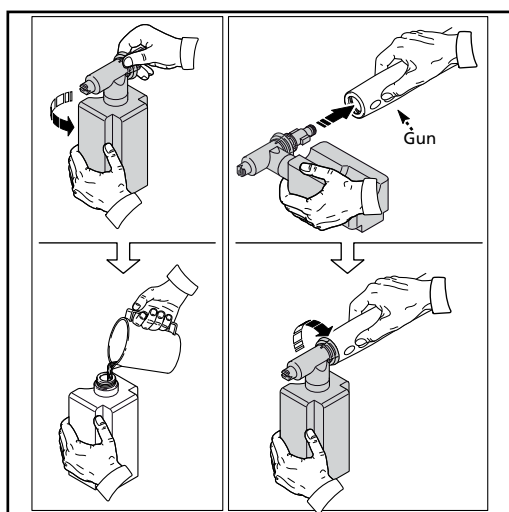
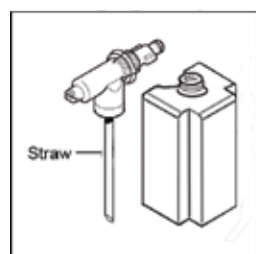

Fig. 10
Fig. 11
- When using the detergent bottle, \* fill it with a properly formulated detergent or cleaner with water ratio according to instructions on the container (Fig. 10). The detergent bottle comes with a straw which is fitted into the screw-on top. If you don't see the straw, look inside the bottle and attach it to the screw-on top (Fig. 11).